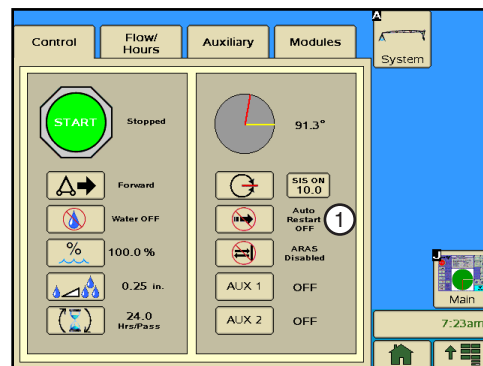

Figure 27-2 1. Auto Restart ON/OFF Button
- From the Main screen, push **System, Control, Auto Restart ON/OFF** to turn Auto Restart ON or OFF. Refer to Figure 27-2.